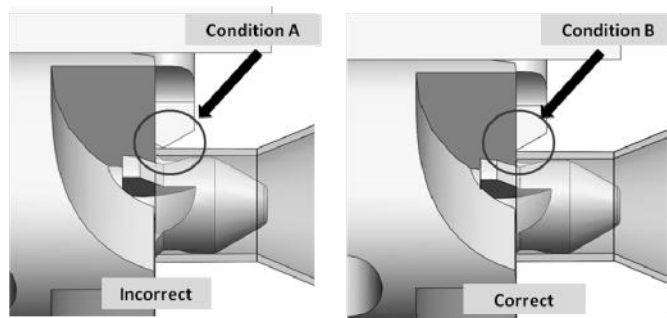

Figure 2
7. If the 3 Way Cutter binds on the case or does not chamfer correctly, condition A may exist, as shown in Figure 2. Loosen the 8-32 x 1/8 Setscrew (I) and position the Carbide Cutter Head (J) so the leading edge of the Cutter Head is lined up just past the tip of the Outside Deburring Cutter (C), as shown in condition B, and retighten the 8-32 x 1/8 Setscrew (I).